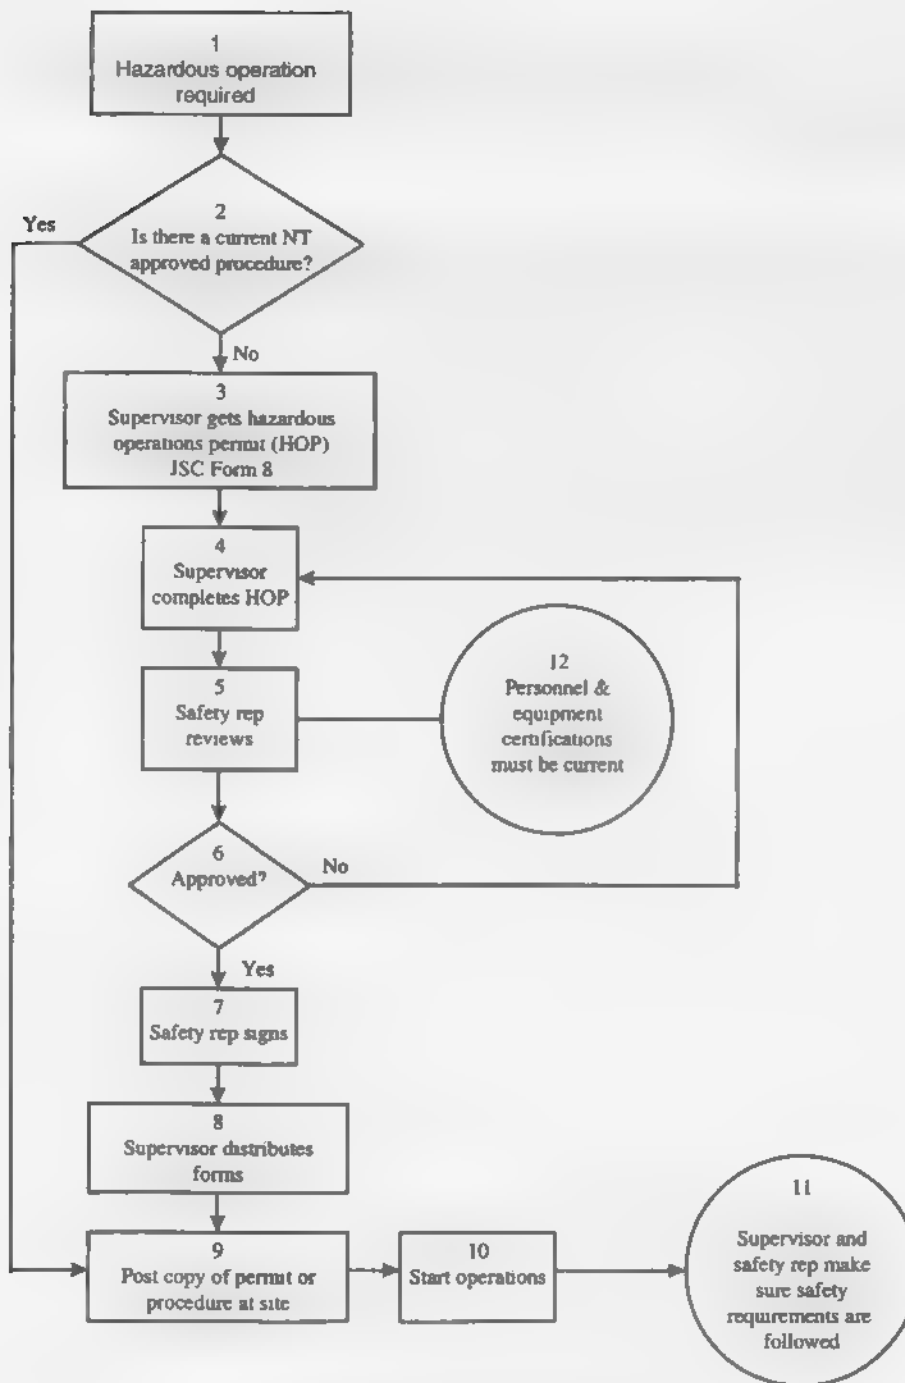

Figure 109-2. hazardous operations permit flowchart.
- c. A hazardous operations permit for other operations as required by Paragraphs 4 and 5 of this chapter. Use JSC Form 8, "Hazardous Operations Permit," Appendix A. The flowchart in Figure 109-2 describes the steps necessary to complete and approve a hazardous operations permit.